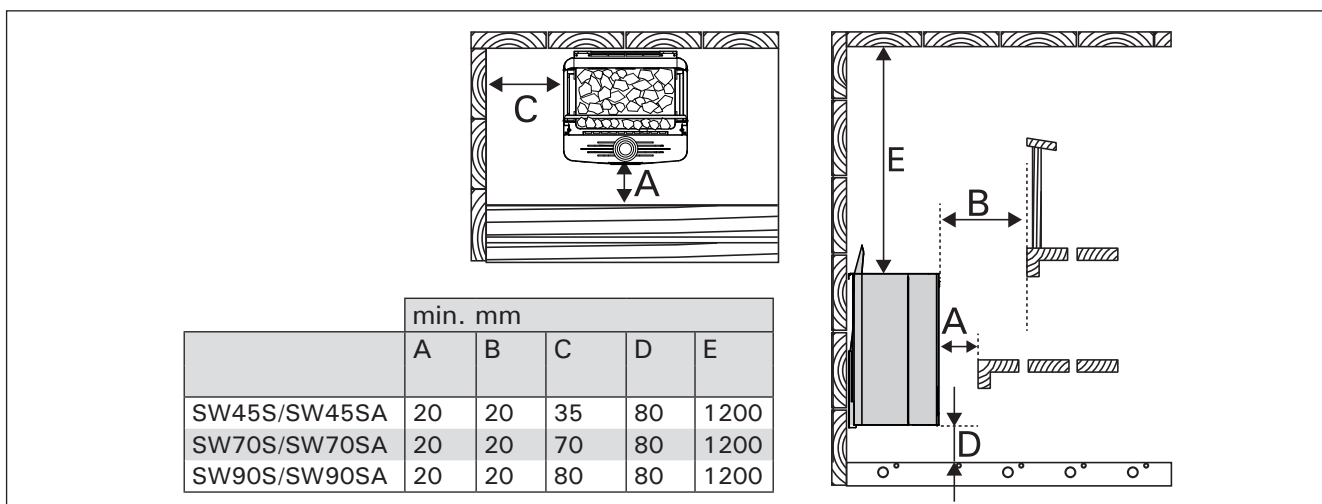

Figure 5. Safety distances (all dimensions in millimeters)
- The location of the heater fulfils the minimum requirements concerning safety distances given in fig. 5 and table 2.
If a safety railing is built around the heater, the minimum distances given in fig. 5 and table 2 must be observed.
See figures 5 - 9.